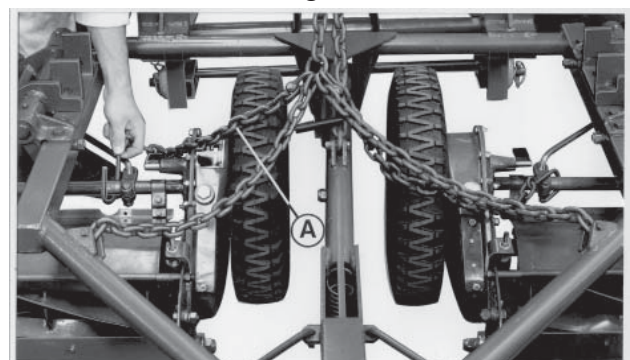

Fig 29
2. (Fig. 29). Attach check chains (A) to main axle of outer cutting units.